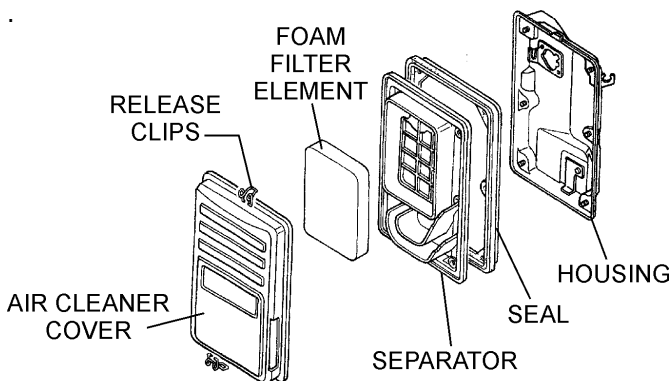

Figure 27. Engine Air Cleaner
1. Remove the air cleaner cover and foam filter element as shown in Figure 27.